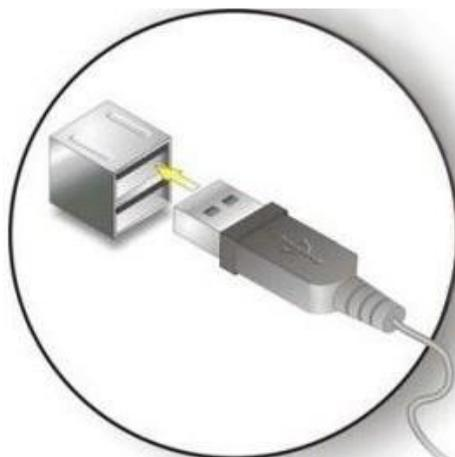

Figure 2-8 USB Device connection
Step 2: Align the USB device connector with one of the connectors on the bottom panel (see Figure 2-8).